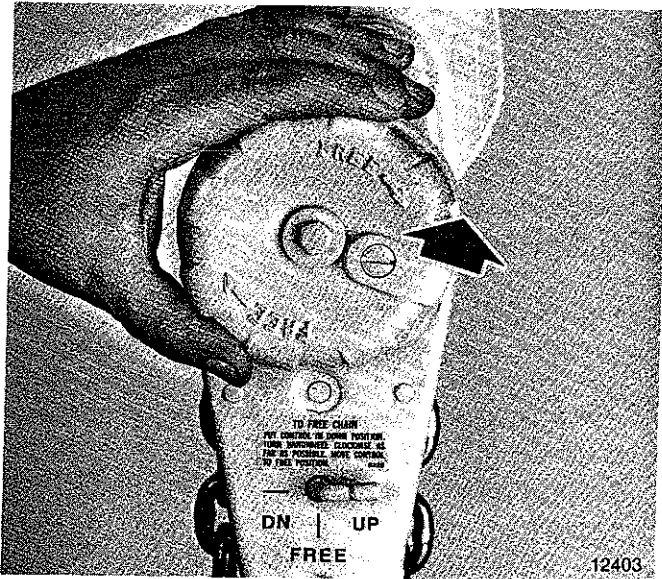

Figure 2-1. Turning Handwheel Counterclockwise, Finger-Tip Lever in "UP" Position
b. Rotate hand wheel counterclockwise, as shown in Figure 2-1.